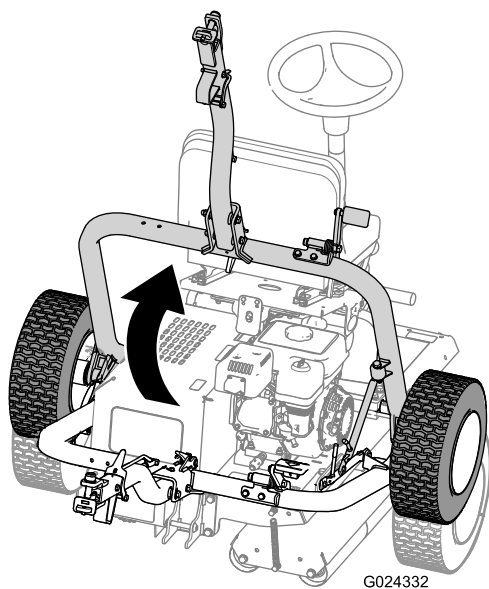

Figure 29
- D. Raise the hitch (Figure 29) until the latch lever locks in the slide detent (Figure 25).